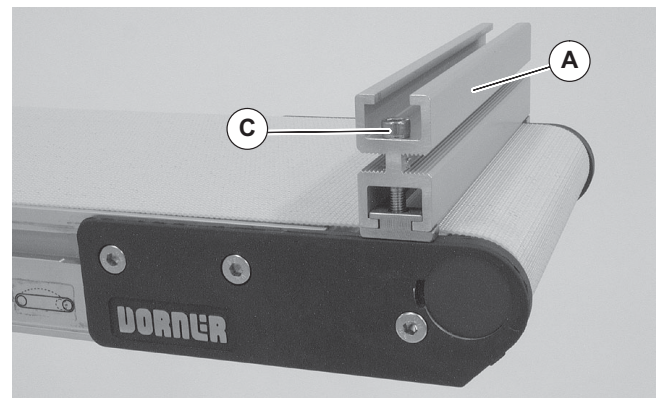

Figure 6
8. Install end stop with spacers (Figure 6, item A) on end of conveyor with M5 screws (C). Tighten screws to 30 in-lb (7 Nm).